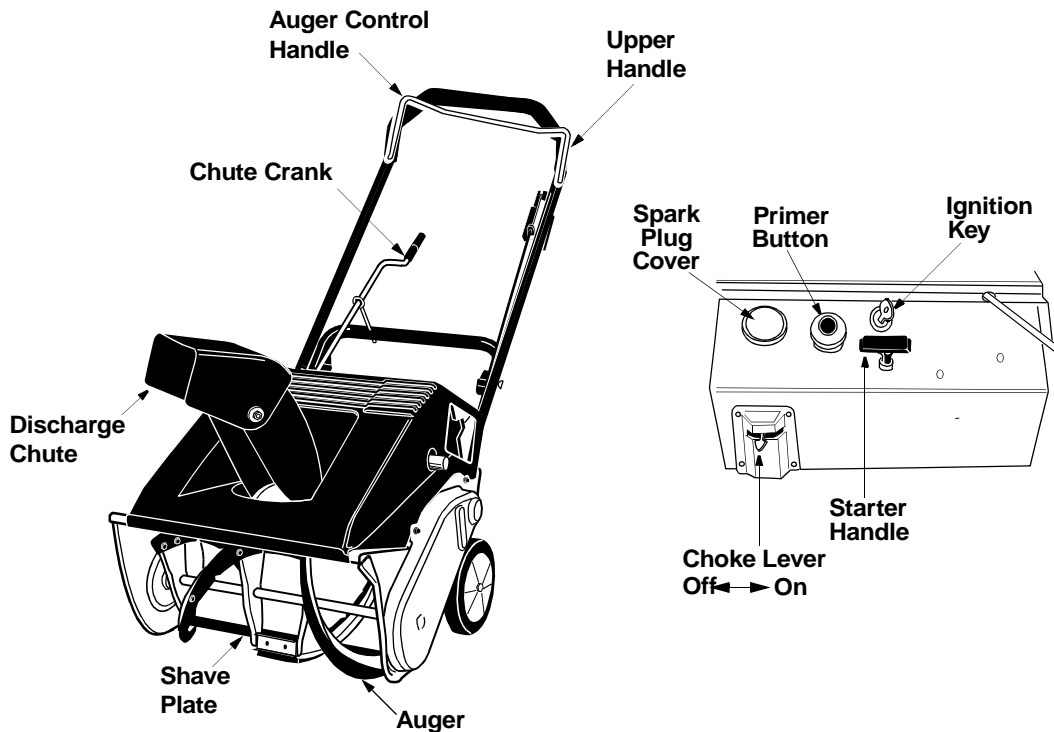

Figure 9
- Compare Figure 9 with the controls on your snow thrower before starting the machine or trying to operate it.